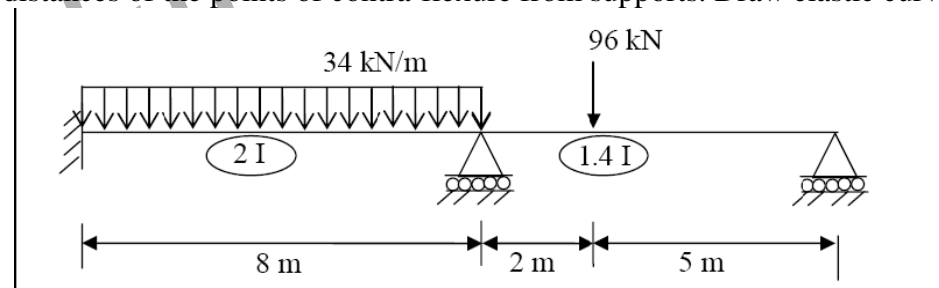

Figure 6
6. Analyze the continuous beam shown in Figure 6 using slope-deflection method, and draw shear force and bending moment diagrams. Locate and find the distances of the points of contra-flexure from supports. Draw elastic curve. [16]